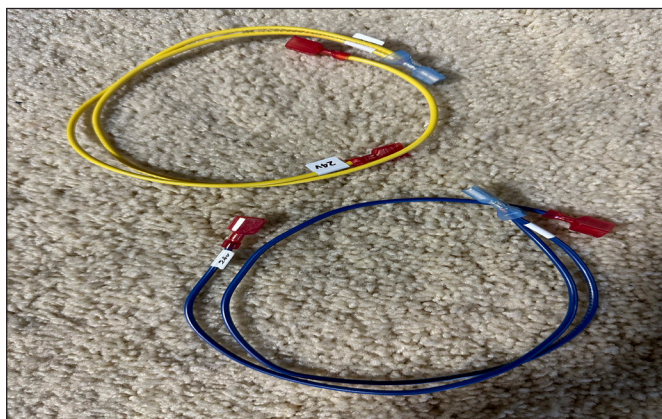

Figure 5: Burner Removal
3. Disconnect the Blue and Yellow "Y" wires (see figure 5), connect them back to the unit by following the wiring diagram. Use water-proof connectors if needed.
- a. Remove three (3) T-20 screws securing the pilot mount on the media tray (See Figure 5). Put the cover to the side.